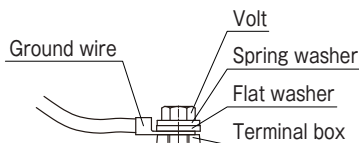

Figure 3
④ For the 0.2kW ME series and MD series, connect the ground wire by sandwiching it between the flat washer and the terminal box. (See Figure 3)